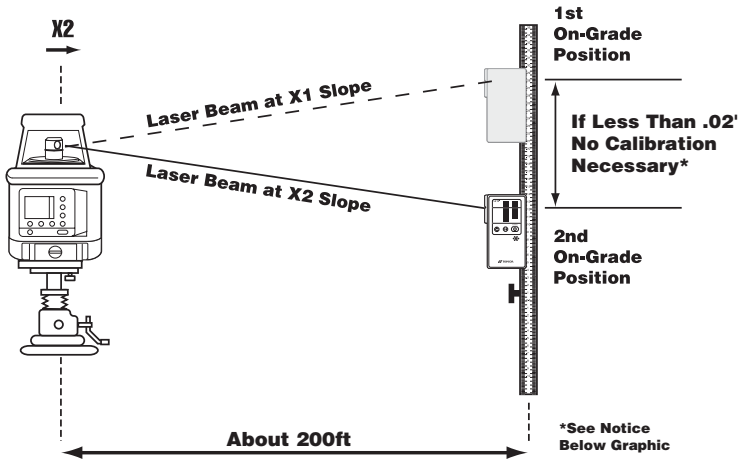

Figure 3-7. Note Laser Sensor's Second Position
5. Raise or lower the sensor to get an on-grade signal (Figure 3-7). Record or mark the position on the grade rod (X2).